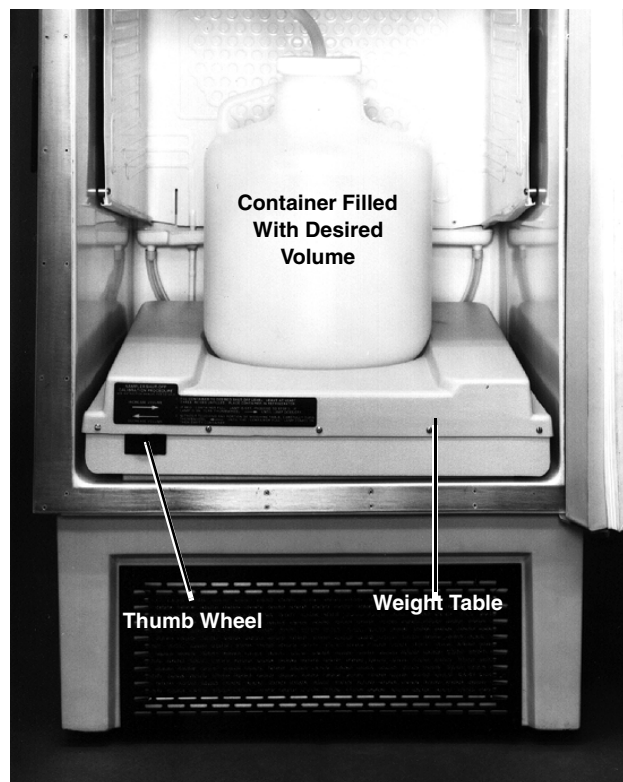

Figure 2-6 Sampler Shut-off Calibration
1. Refer to Figure 2-6. Fill the container with liquid to the desired shut-off level. Leave at least three inches unfilled. Place the container in its normal position in the bottom of the refrigerator.